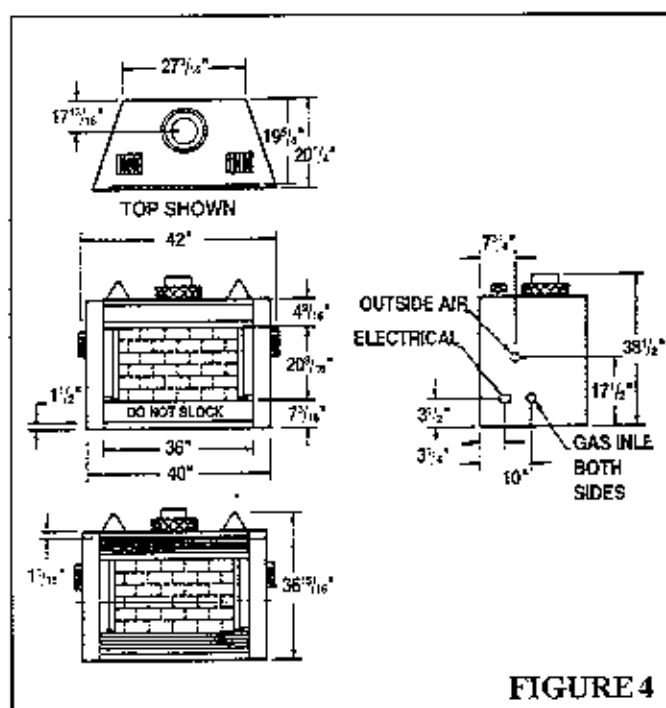

FIGURE 4
A location that requires cutting the least number of joists, roof rafters, and floor joists will reduce costs and make installation easier. This may mean moving only one or two inches from the selected ideal location. Any location selected must allow adequate room to accommodate the fireplace and framing dimensions shown in Figures 4, 5 and 6.
STEP 1: After consulting Figures 4, 5 and 6 for the proper dimensions, frame the cavity or the opening for the fireplace at the chosen location. Move the fireplace into position, as applicable to your particular framing construction.